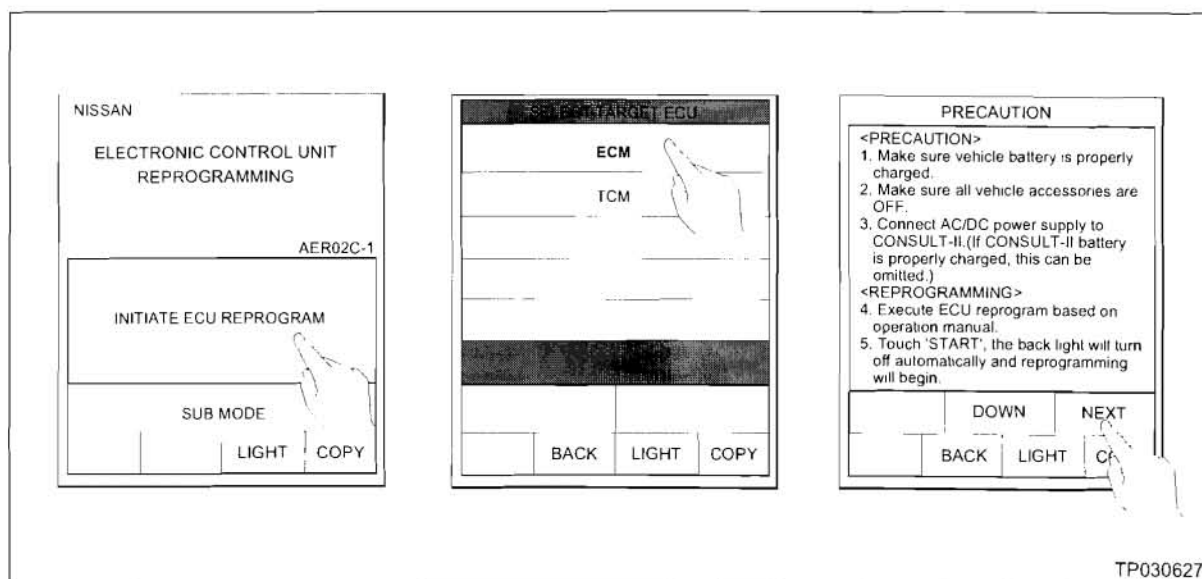

Figure A15
20. Press **INITIATE ECU REPROGRAM** (see Figure A15), then